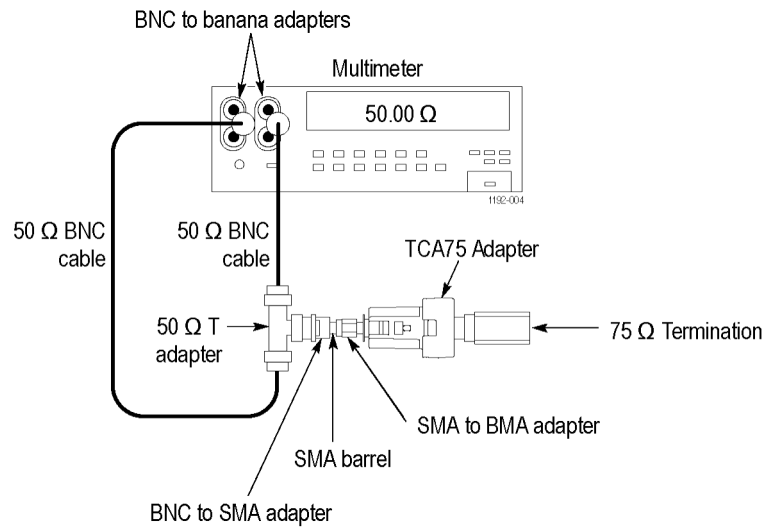

Figure 6: Test setup for output impedance
2. Connect the TCA75 adapter as shown. (See Figure 6.)